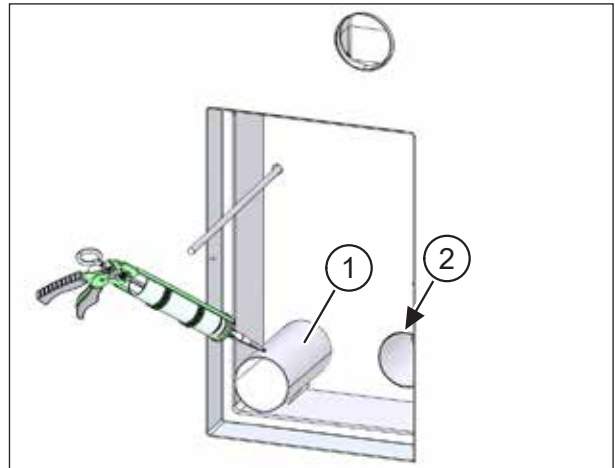

Fig. 71: Inserting and fixing the ventilation pipes
- ▶ Apply permanently elastic sealant to the outer skin of the ventilation pipes (item 1 in Fig. 71).
- ▶ Using a twisting motion, push the two ventilation pipes into the openings in the installation kit until they end flush with the inside of the installation kit (item 2 in Fig. 71).